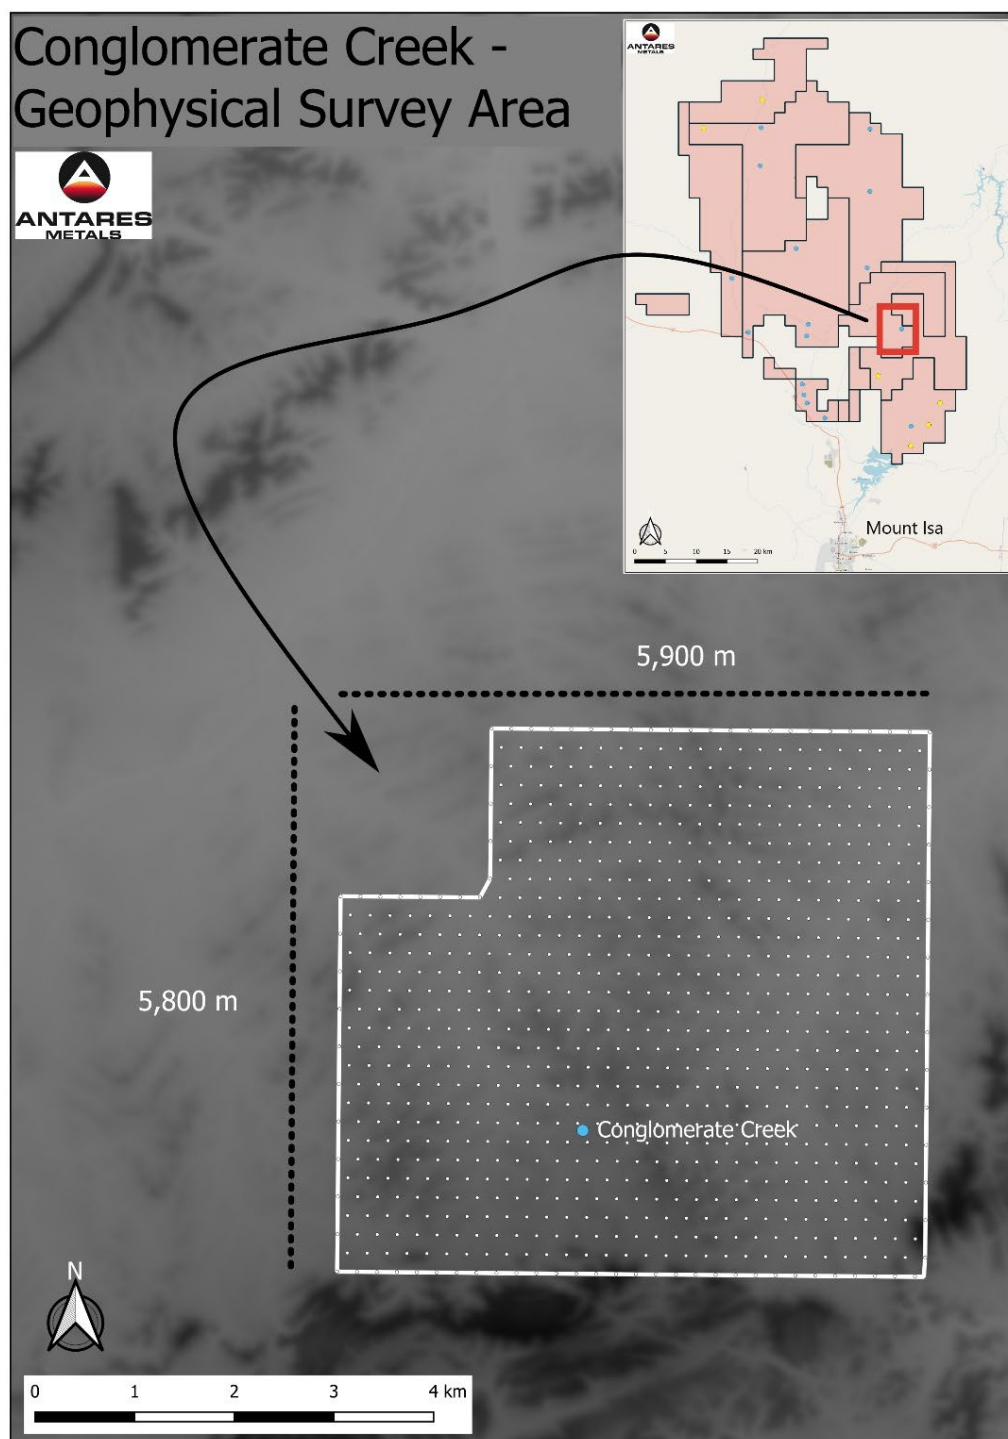

Figure 1: Conglomerate Creek geophysical survey location and topography underlay
The ground gravity survey comprised an offset grid of 200m x 200m stations, resulting in a high-definition gravity image of the area. To complement the gravity data, a high-definition drone magnetic survey consisting of fifty (50) metre-spaced lines was also flown. Geophysical Consultants Terra Resources processed and interpreted the datasets and are following up with an additional inversion of the data to generate a three-dimensional image of the magnetic and Gravity data. Figure 1 illustrates the geophysical survey area.